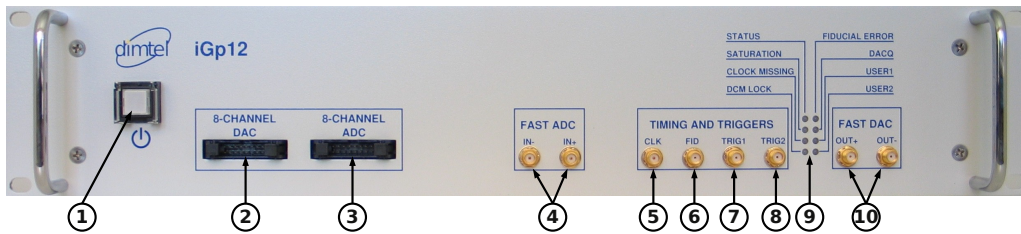

Figure 2: Front panel features
1. Connect RF clock at -3 dBm nominal level (Fig. 2, item 5);
2. Connect single-ended high-speed ADC input signal to **Ain+** (Fig. 2, item 4). The FS swing of this signal should be 780 mV peak-to-peak;
3. Connect a $50\ \Omega$ terminator to **Ain-** (Fig. 2, item 4);
4. Connect high-speed DAC output(s) (Fig. 2, item 10) to the appropriate back-end unit;
8. Push the power button (Fig 2, item 1) to turn on the system;
10. Push the power button (Fig 2, item 1) to turn the system off;